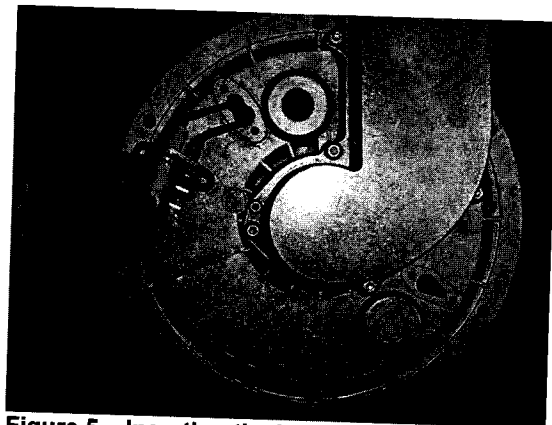

Figure 5 - Inserting the Igniter into the Plate
2. Insert the igniter into the plate. See Figure 5.